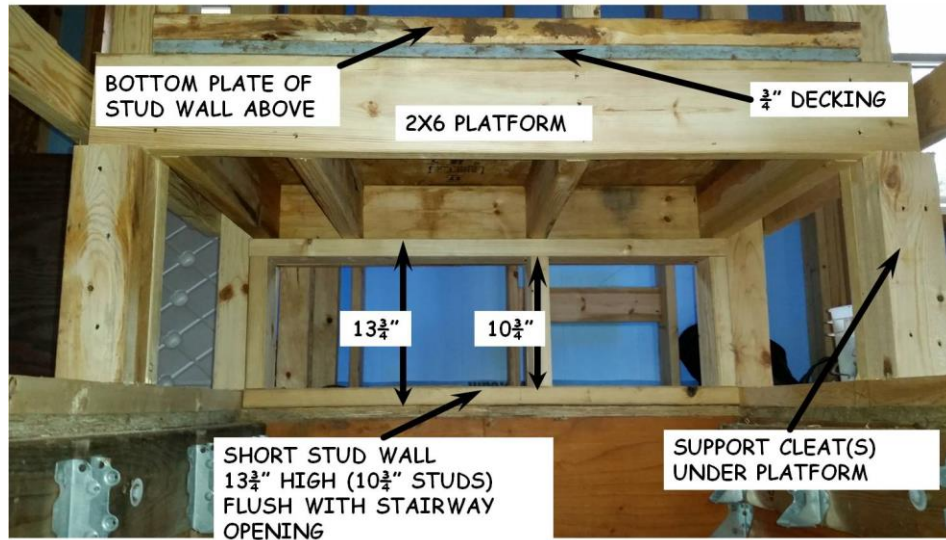
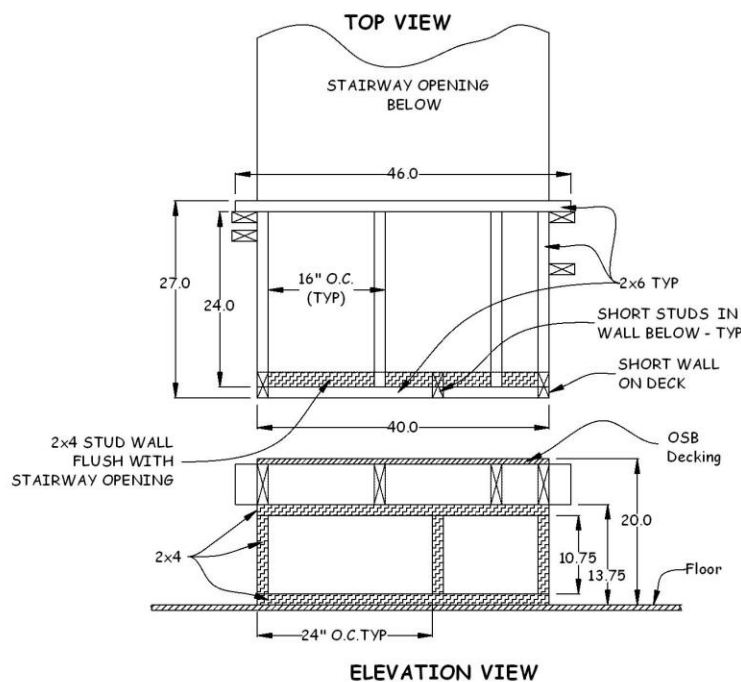

Figure 6-8. Closet Platform.
Figure 6-9. Platform for Closet Over Stairway.
4. Build a 27”x40” platform with 2x6 joists (16” o.c.) and ¾” OSB decking as shown in Figure 6-8 below. The stairway opening is typically 40” wide. Adjust the platform width as necessary to fit between the walls. The 2x6 that bridges the stairway opening on the cantilevered end should be 46” long so that it can be firmly supported with blocking or a stud inside the adjoining walls. Check the location of the wall studs to be sure that the 2x6 will not interfere on either side (see Figure 6-9). Once the platform is in place, with one end sitting on the short, 2x4 stud wall at the end of the opening, the other end will extend 24” over the opening. Adjust if necessary so long as the platform does not extend more than 24”.